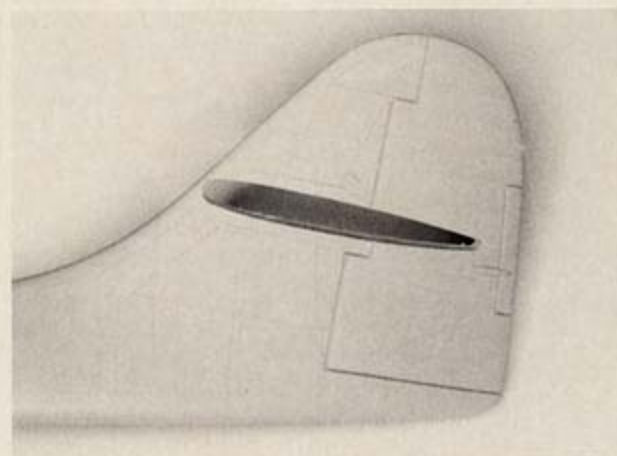

Fig. 10. An opening was cut into the fin and rudder for the acrylic-sheet horizontal stabilizer.
**The tail section.** The horizontal stabilizer was carved from a single piece of clear acrylic sheet. I cut an opening in the fin to accept the horizontal stabilizer, Fig. 10. I scribed in all the panels and control surface hinge lines. For the rib detail on the fabric-covered areas, I cemented thin copper wire around each surface, twisted the ends together to produce tension, then cemented the wires in place with super glue. When this had set, I used a sharp blade to cut away the excess wire, then tapered the ends and blended the wires into the surface with sandpaper.